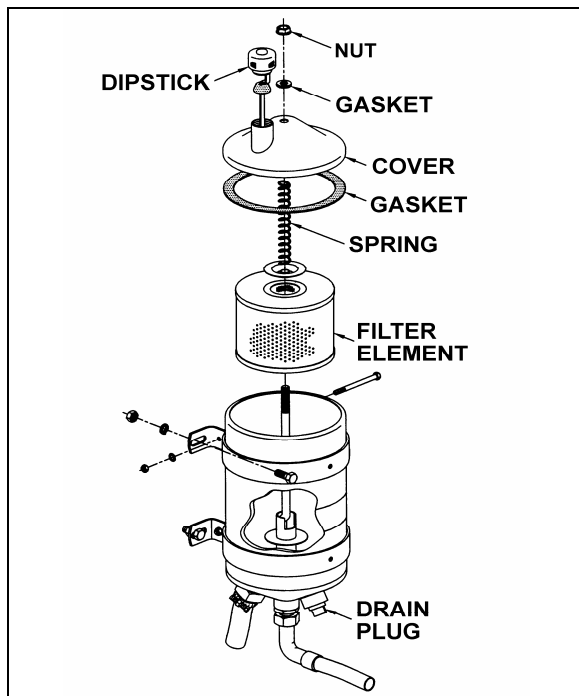

FIGURE 11: POWER STEERING FLUID RESERVOIR
3. Insert dipstick in reservoir. Remove it again to check fluid level (Fig. 11).